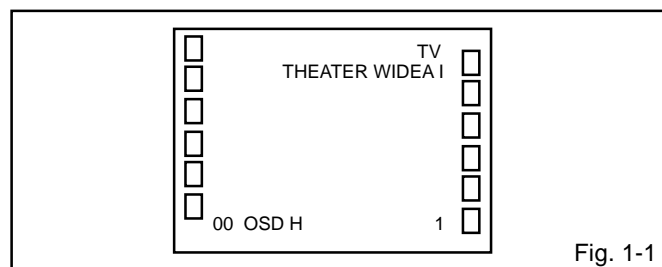

Fig. 1-1
1. In the condition of NO indication on the screen. Press the VOL. DOWN button on the set and the Channel button (9) on the remote control for more than 2 second to appear the adjustment mode on the screen as shown in Fig. 1-1.
4. Activate the adjustment mode display of Fig. 1-1 and press the channel button (01) on the remote control to select "CUT OFF".
4. Activate the adjustment mode display of Fig. 1-1 and press the channel button (24) on the remote control to select "R.BIAS".
6. Adjust the VOL. UP/DOWN button on the remote control to whiten the R.BIAS(C), G.BIAS(C), B.BIAS(C), R/G.DRV(C), B/R.DRV(C), R.BIAS(W), G.BIAS(W), B.BIAS(W), R/G.DRV(W) and B/R.DRV(W) at each step tone sections equally.
3. Activate the adjustment mode display of **Fig. 1-1** and press the channel button **(00)** on the remote control to select "OSD H".
6. Activate the adjustment mode display of **Fig. 1-1** and press the channel button **(02)** on the remote control to select "H.POSI".
9. Activate the adjustment mode display of **Fig. 1-1** and press the channel button **(04)** on the remote control to select "H. SIZE".
7. Activate the adjustment mode display of **Fig. 1-1** and press the channel button **(11)** on the remote control to select "V. CENT".
10. Activate the adjustment mode display of **Fig. 1-1** and press the channel button **(05)** on the remote control to select "V. SIZE".
7. Activate the adjustment mode display of **Fig. 1-1** and press the channel button **(06)** on the remote control to select "V. LIN".
4. Activate the adjustment mode display of **Fig. 1-1** and press the channel button (**43**) on the remote control to select "BRI CENT".